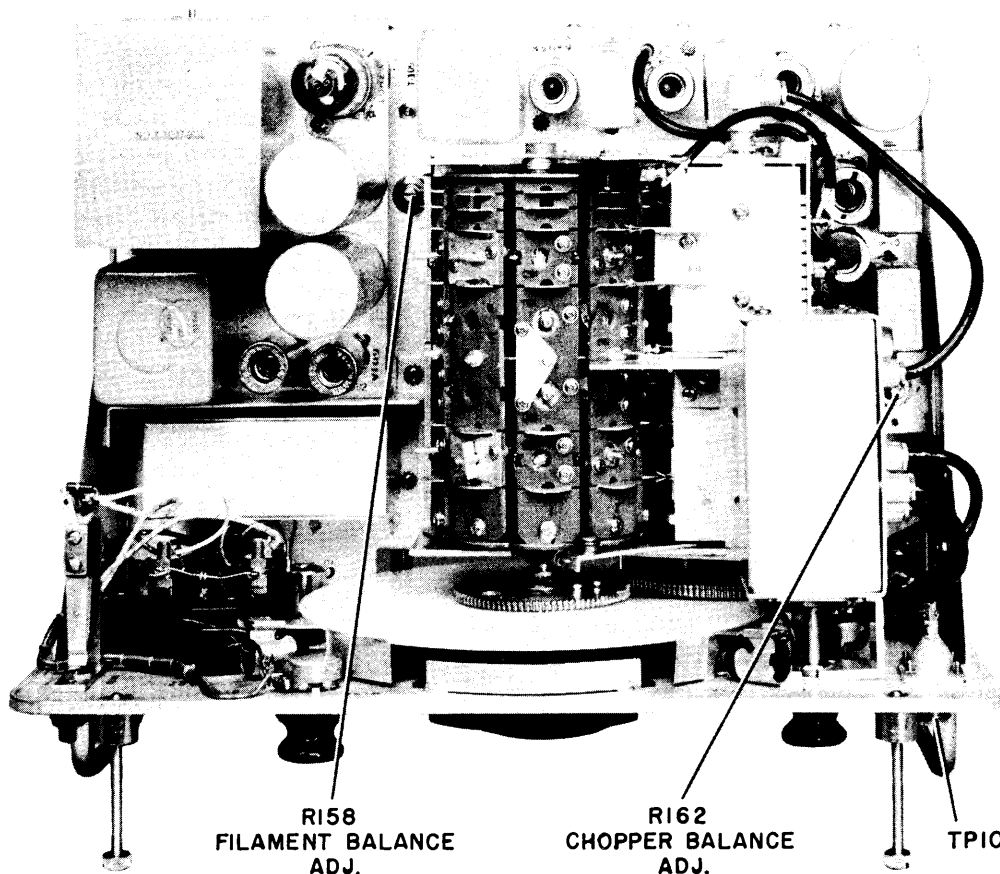

Figure 7-5. Adjustment Locations and Test Point Locations, Top of Chassis, Field Strength Meter IM-84/URM-50
Step 5. Connect R.F. Signal Generator Type AN/URM-25 to the antenna connector J106 (test point no. 10, Figure 7-5). To make this connection use the R.F. Cable Assembly CG-409A/U (7'), the R.F. Cable Assembly CG-409A/U (4'0") the Antenna Simulator SM-35/URM-25 and Coupler Adapter UG-201/U.
—The two controls used for the chopper hum balancing adjustment are screwdriver adjusted. Both of these adjustments are accessible at the top of the chassis. See Figure 7-5 for the location of these controls. Proper adjustment is accomplished in the following manner: